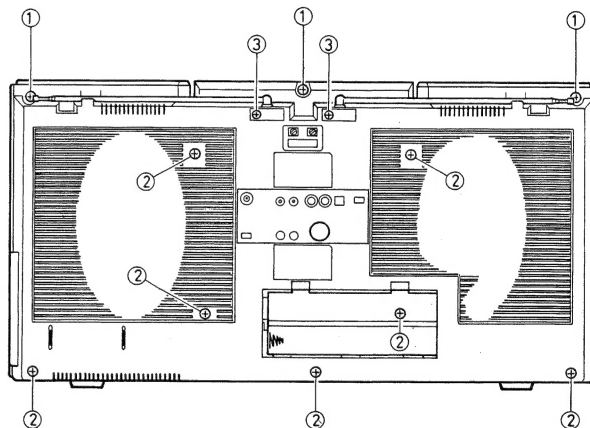

Fig. 5
A. Rear cabinet and rod antennas (Fig. 5)
2. Remove 3 screws ① — SBSF4018R.
3. Remove 7 special screws ② — VKZ4008-002.